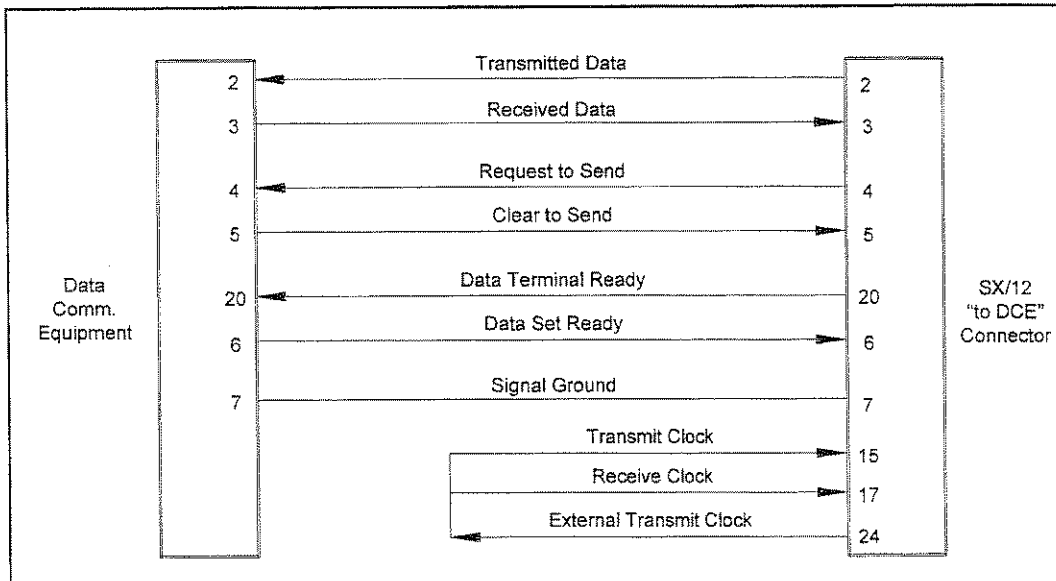

Figure 3.0 Asynchronous RS-232c Patch Cable
2. Using a break-out box or a modified cable on the West "to DCE" connector, connect the external transmit clock signal to the transmit and receive clock signals as shown in Figure 3.0. Also connect the Data Communications Equipment to this connector.